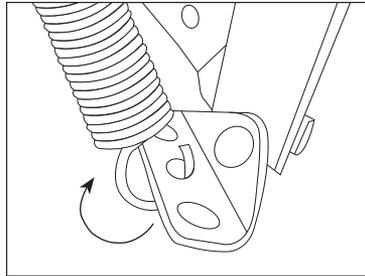

Figure 3: Mounting the spring.
1. Slip one end of the spring into one of the three holes in the little bracket, as shown in **Figure 3**.